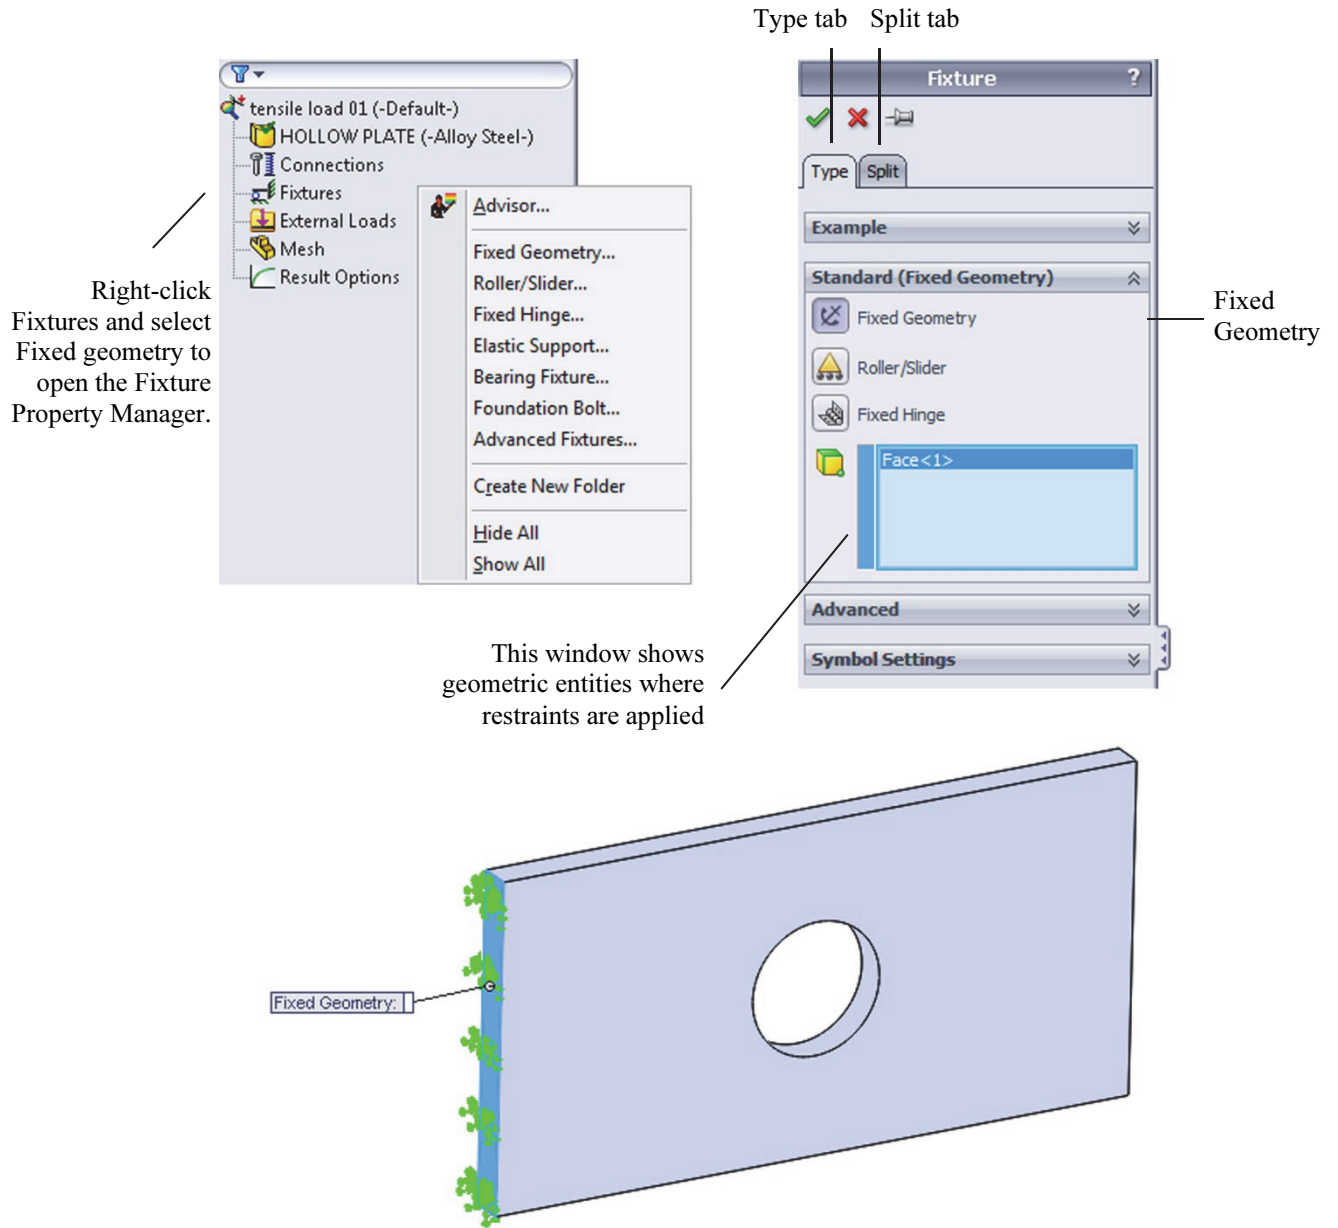

Figure 2-10: Pop-up menu for the Fixtures folder and Fixture definition window (Fixture Property Manager).
Having assigned the material, we now move to defining the restraints. To display the pop-up menu that lists the options available for defining restraints, right-click the *Fixtures* folder in the *tensile load 01* study (Figure 2-10).
The existence of restraints is indicated by symbols shown in Figure 2-10. In the **Symbol** Settings of the Fixture window the size of the symbol can be changed. Notice that symbols shown in Figure 2-10 are distributed over the highlighted face meaning the entire face has been restrained. Each symbol consists of three orthogonal arrows symbolizing directions where translations have been restrained. Each arrow has a disk symbolizing that rotations have also been restrained. The symbol implies that all six degrees of freedom (three translations and three rotations) have been restrained. However, the element type we will use to mesh this model (second order solid tetrahedral element) has only translational degrees of freedom. Rotational degrees of freedom can't be restrained because they don't exist in this type of element. Therefore, disks symbolizing restrained rotations are irrelevant in our model. Please see the following table for more explanations.
- Right-clicking the *Fixtures* folder and selecting **Hide All** or **Show All** in the pop-up menu shown in Figure 2-10, or